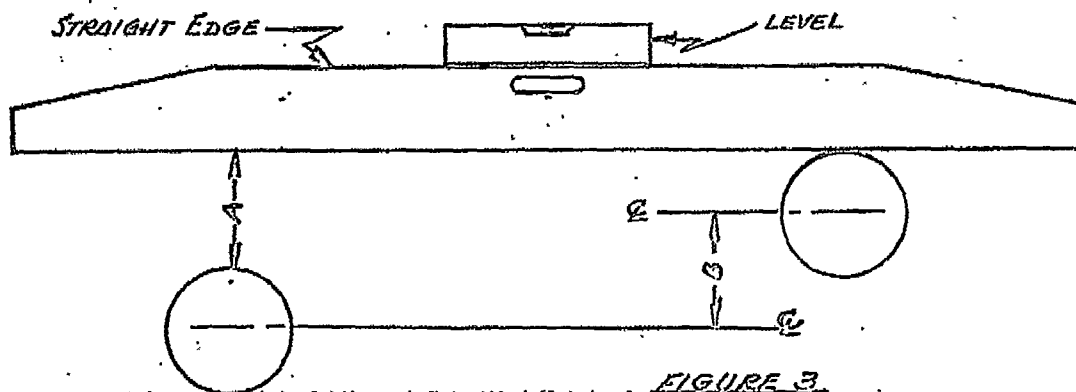

FIGURE 3
(2) The measurement between two lines with different elevations can be found with a straight edge and level as shown in following drawing. (Figure 3)
(4) Figure 3, illustrates a measurement taken between two flange faces, which could be a Face to Face measurement.
- Figure 3 - Face to Face (F to F)